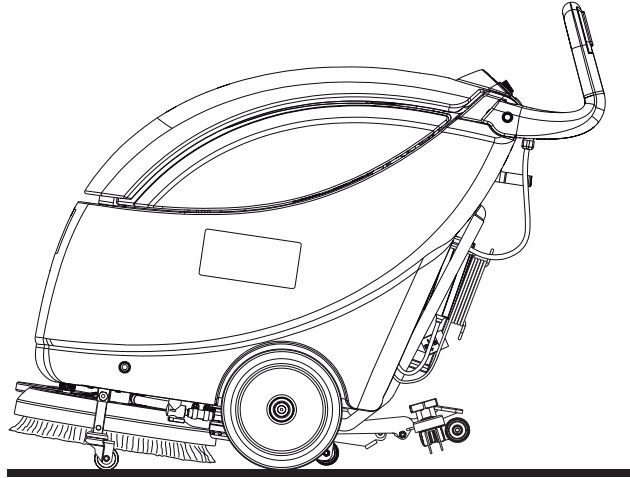

Figure 5
1. To turn off the machine, turn the main switch (26) to "0".
2. Disconnect the power supply cable plug (21) from the electrical mains and place it on the holder.
3. Lift the squeegee (46).
4. Engage the positioning pin (24) and activate the machine transport/parking device (23a) to keep the brush/pad-holder lifted (Fig. 5).
6. In order not to drag the brush/pad on the floor and leave wet marks, when finishing working, remove the brush/pad-holder from the deck by using the disengagement procedure (see the next paragraph), then place it on the front holder (33).